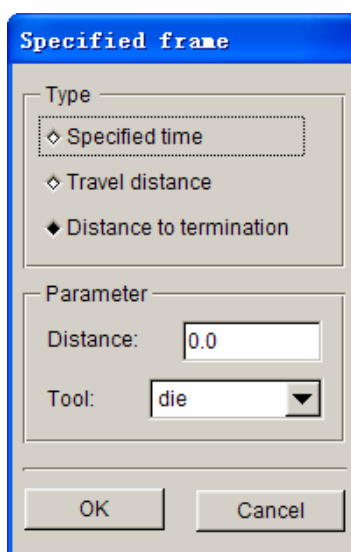

Figure 8.2.78 Specified Frame Define
**ADD...** The user may click this button to add special output frames. The program displays the specified frame dialog box as shown in Figure 8.2.78.